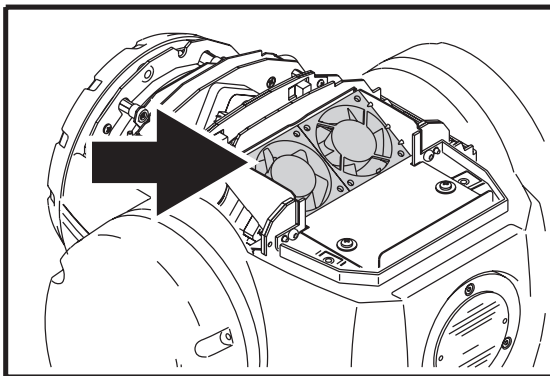

Figure 13: Head fans
6. Clean the twin fans in the head (see Figure 13) and the air vents in the head covers with a soft brush or cotton swab and vacuum.